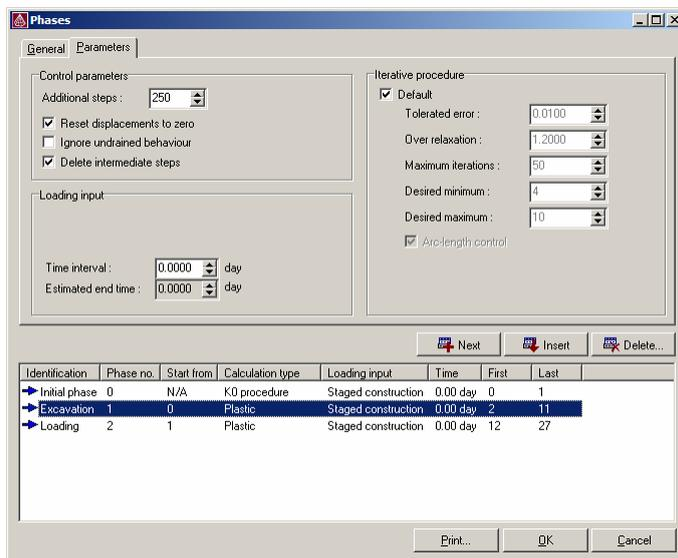

Figure 3.19 The Parameters tab sheet of the Phases window
- The *Parameters* tab sheet (see Figure 3.19) contains the calculation control parameters. Keep the default settings in the *Iterative procedure* box and keep the number of *Additional steps* to 250.